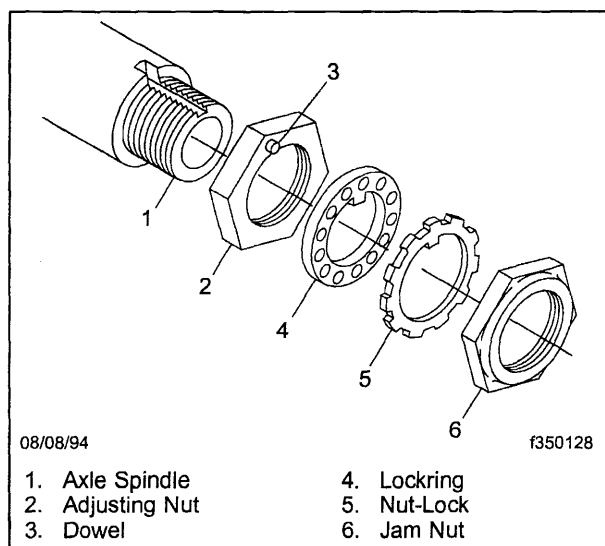

Fig. 3, Four-Piece System
1. Remove the outer jam nut, nut-lock, and lockring. Then loosen — but don't remove — the inner (adjusting) nut. See Fig. 3.